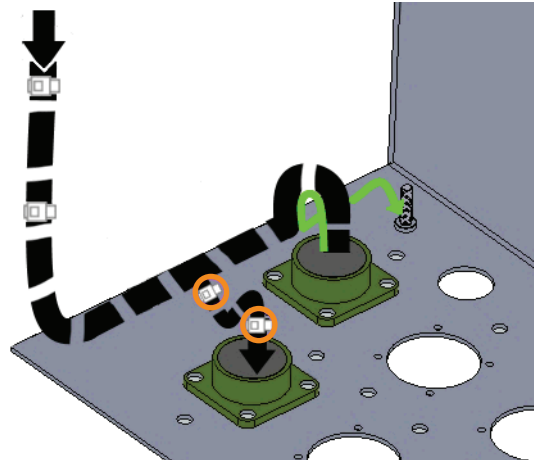

Figure 2 Form Drip Loop and Route Harness Wires
- Step 1. Form a drip loop and route the harness wires to the left toward the 14-pin connector. See *Figure 2*.